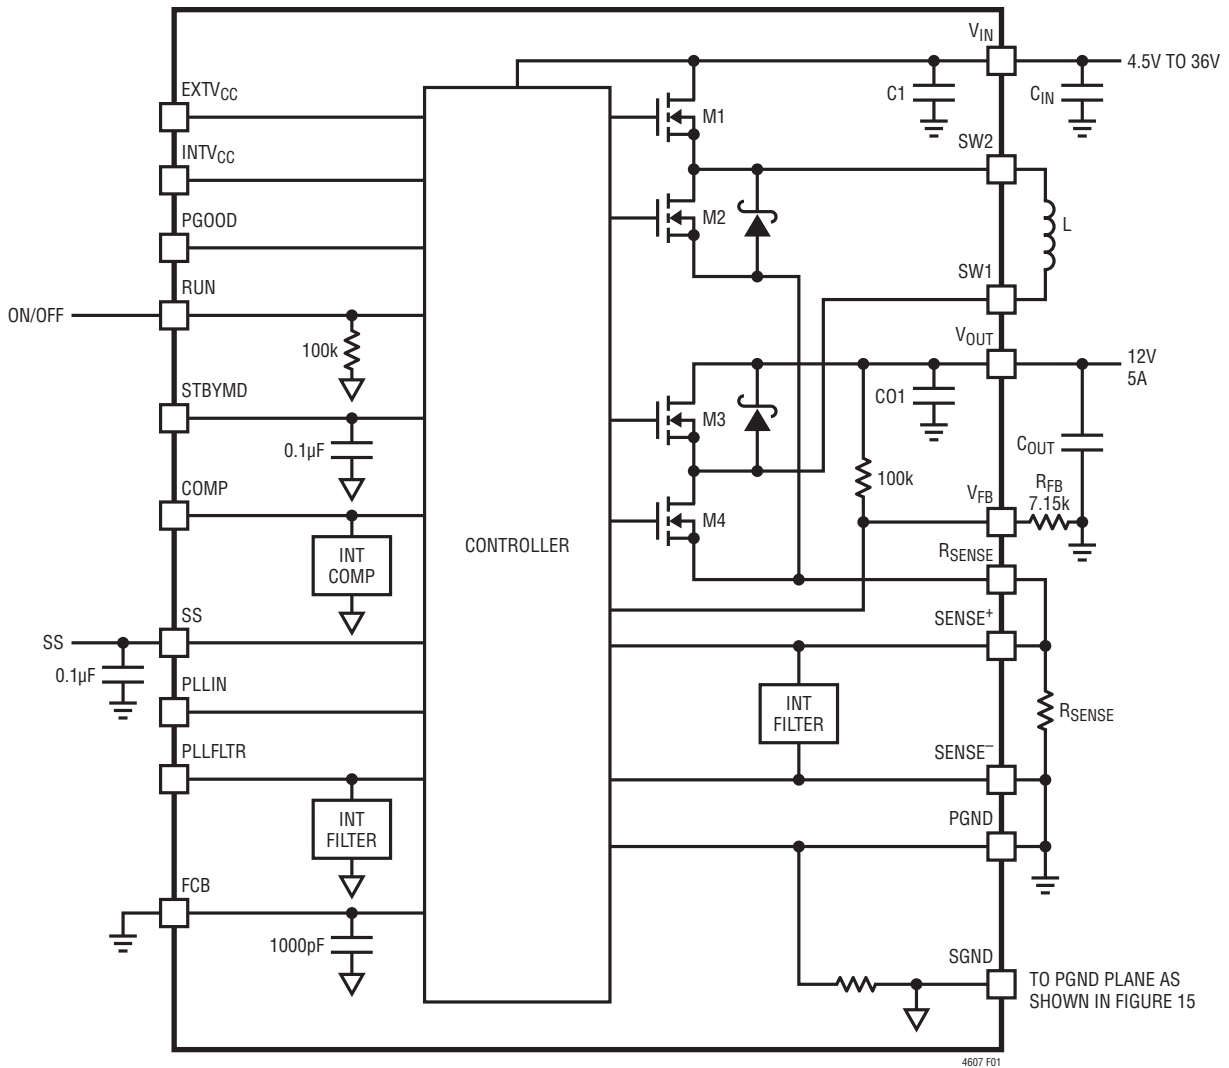

Figure 1. Simplified LTM4607 Block Diagram
**DECOUPLING REQUIREMENTS**  $T_A = 25^\circ\text{C}$ . Use Figure 1 configuration.
The PWM controller has an internal 0.8V reference voltage. As shown in Figure 1 (Block Diagram), a 100k internal feedback resistor connects  $V_{OUT}$  and  $V_{FB}$  pins together. Adding a resistor  $R_{FB}$  from the  $V_{FB}$  pin to the SGND pin programs the output voltage: